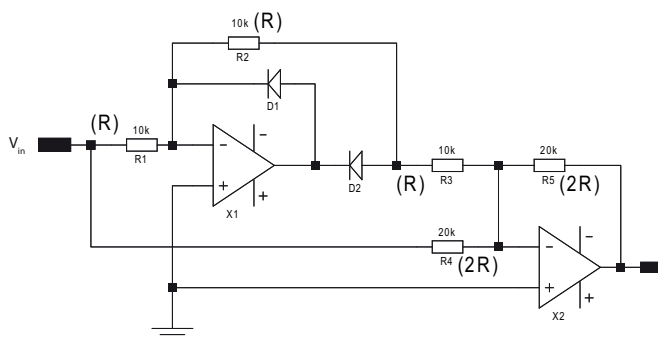

Figure 2 - Classic precision full wave rectifier (9 components)
With reference to Figure 2, for positive inputs, the transfer function is given by,,
From Equation 4 above, the absolute values and ratios of resistors R1 to R4 are critical to satisfactory performance of this circuit. It also shows that there are two ways that the values could be arranged for precision rectification. One of these, shown in Figure 2, is to make R1, R2 and R3 all same value (R), and then make R4 and R5 equal to 2R for unity gain. The other is to make R1, R3, R4 and R5 the same value (R), and then make R2 equal¹ to 2R. This also gives a unity gain. The effect of R5 in both cases is to apply an overall gain to the circuit. Its absolute value is not important so long as the condition given by Equation 4 is satisfied. This will only be the case if very close tolerance resistors are used.